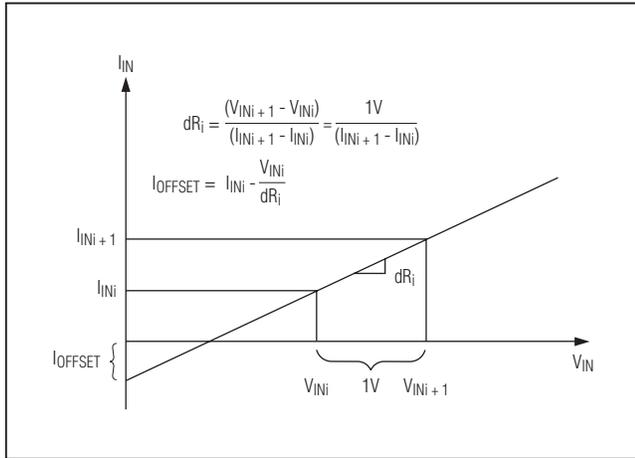

Figure 1. Effective Differential Input Resistance/Offset Current
- Note 4:** The input offset current is illustrated in Figure 1.
- Note 5:** Effective differential input resistance is defined as the differential resistance between V_{DD} and V_{SS} . See Figure 1.